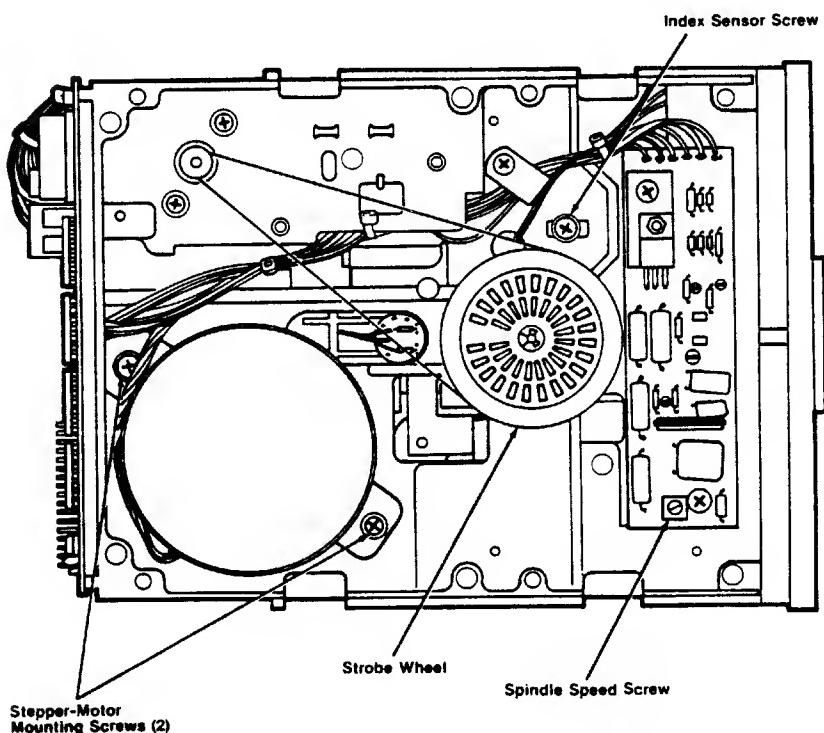

FIGURE 8-53. ALPS DRIVE BOTTOM VIEW
- 8.3.2.4 Locate variable resistor VR1 on the spindle-motor control board. The small screw on VR1 is the spindle-speed adjustment screw (Figure 8-53).
- 8.3.2.10 The strobe wheel on the bottom of the drive has a black-and-white pattern. Position the drive with strobe wheel facing technician (Figure 8-53).
- 8.3.2.12 Slowly turn the spindle-speed adjustment screw (Figure 8-53) until the strobe effect stops.
- 8.3.3.7 If cat-eye patterns are NOT within 80% of each other, loosen two (2) stepper motor mounting screws (Figure 8-53).